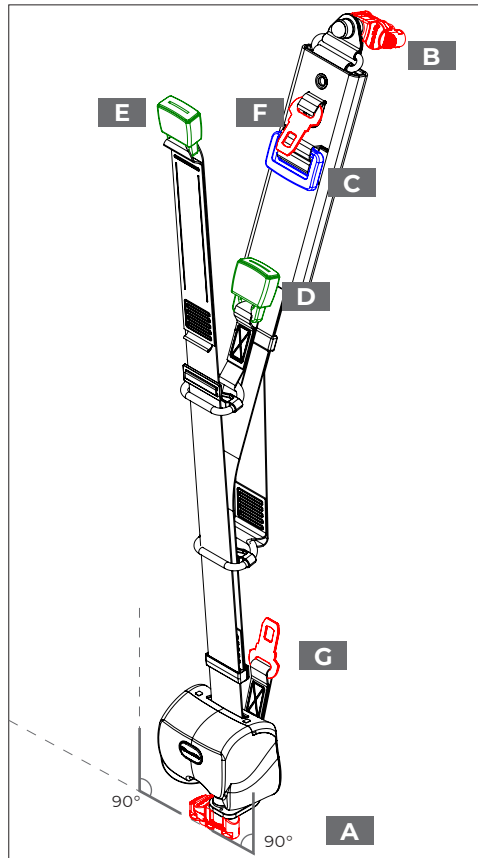
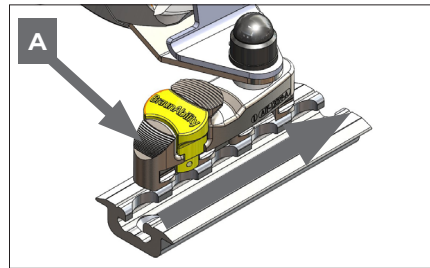

Figure 1
Figure 2
3. Fit the shoulder belt ATF (aluminium track fitting) into the rail by aligning the ATF feet with the cut-out sections of the rail, (Fig. 2). The inertia reel should be mounted at an angle of 90/90° as viewed in 2 planes to the road level, (Fig. 1).